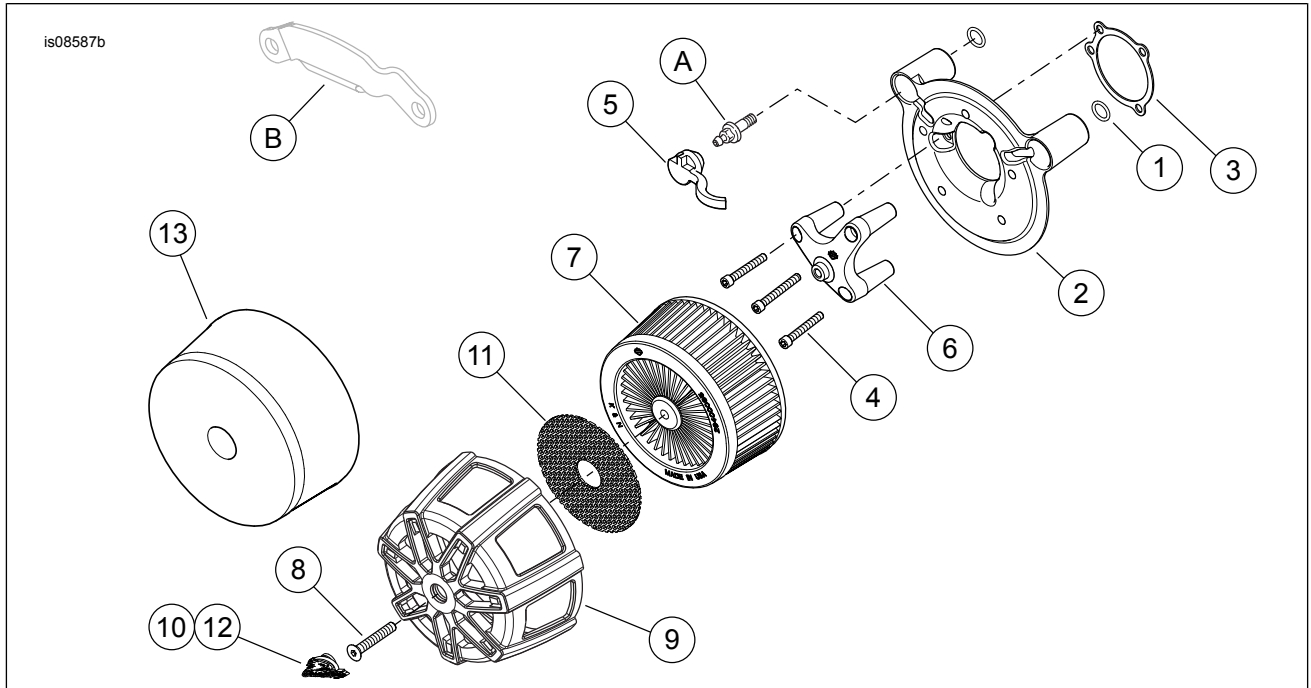

Figure 1. Service Parts, Screamin' Eagle Performance Air Cleaner Kit
See Figure 1 and Table 1.
3. Remove the currently installed air cleaner. Refer to the service manual or the instructions for **THAT** air cleaner. See Figure 1. Save the two breather screws (A) from the backplate. The remaining parts can be recycled or properly disposed of.
4. Remove and discard the induction module bracket (A).
1. See Figure 1. Install two O-rings (1) from kit in grooves around breather screw holes on induction module side of backplate assembly (2).
2. Align the holes in the gasket (3) with holes in the backplate, and install on the induction module side of the backplate.
1. See Figure 1. Install the air cleaner element (7) and cover (9). Before tightening the center screw, align the cover using the medallion for best appearance, then tighten center screw to 4.1–6.8 N·m (36–60 **in-lbs**).